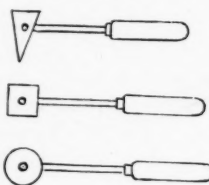

fig. 3.
*Turning*—When the thrown piece is firm, but not dry, it is placed again on the wheel and glued with slip. Then it is perfected with turning tools. These instruments (fig. 3) are steel plates, sharpened on the edges with a file, straight or curved, solidly fixed in a wooden handle and perpendicular to the angle of the handle. With these different turning tools the thrower perfects all the curves of the vase, keeping as closely as possible to the design which he has under his eyes.